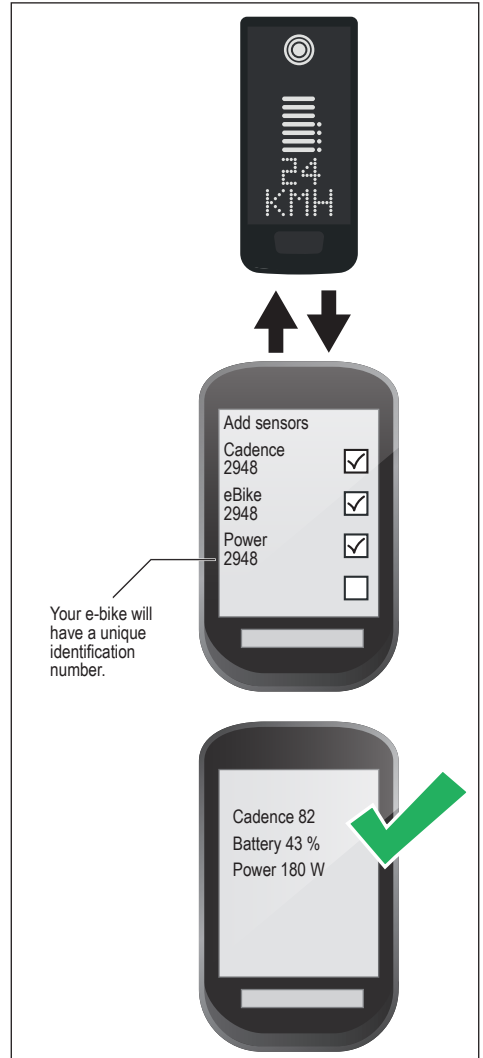

Fig. 8: Connection e-bike to bicycle computer
- Select at least one of the three shown sensors (see Fig. 8).